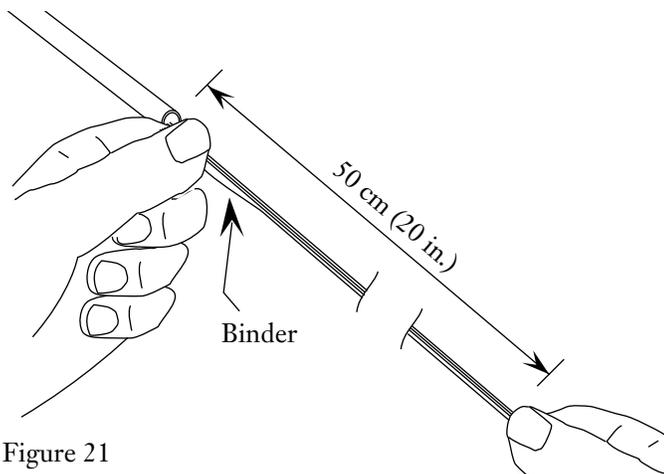

Figure 21
6.9 Secure the cable to a work surface or have someone hold it steady. With one hand, tightly grasp the groups of fibers 50 cm (20 in.) below the end of the central tube. With the opposite hand, pick out a binder thread and its fibers at the end of the tube (Figure 21).